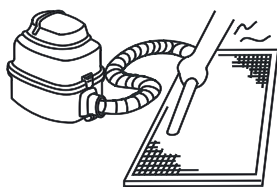

Fig. 6-8
- The air inlet side should face upwards if you are using a vacuum cleaner. (see Fig. 6-8).